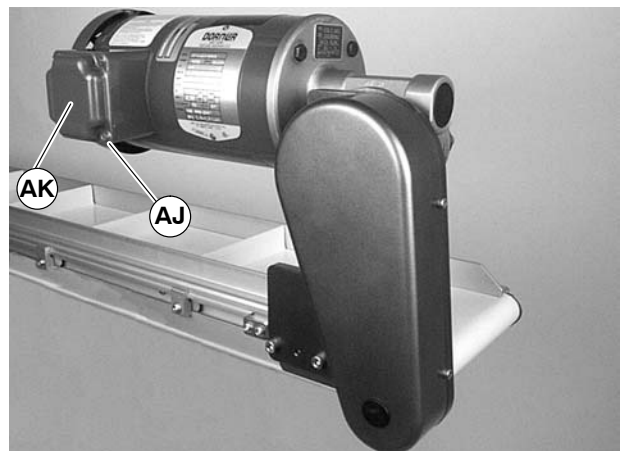

Figure 27
- a. Loosen terminal box screws (AJ of Figure 27) and remove cover (AK).